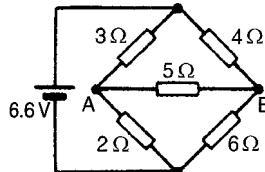

Figure 13.51
- 5 For the bridge network shown in Fig. 13.51, find the current in the 5Ω resistor, and its direction, by using Thévenin's theorem.